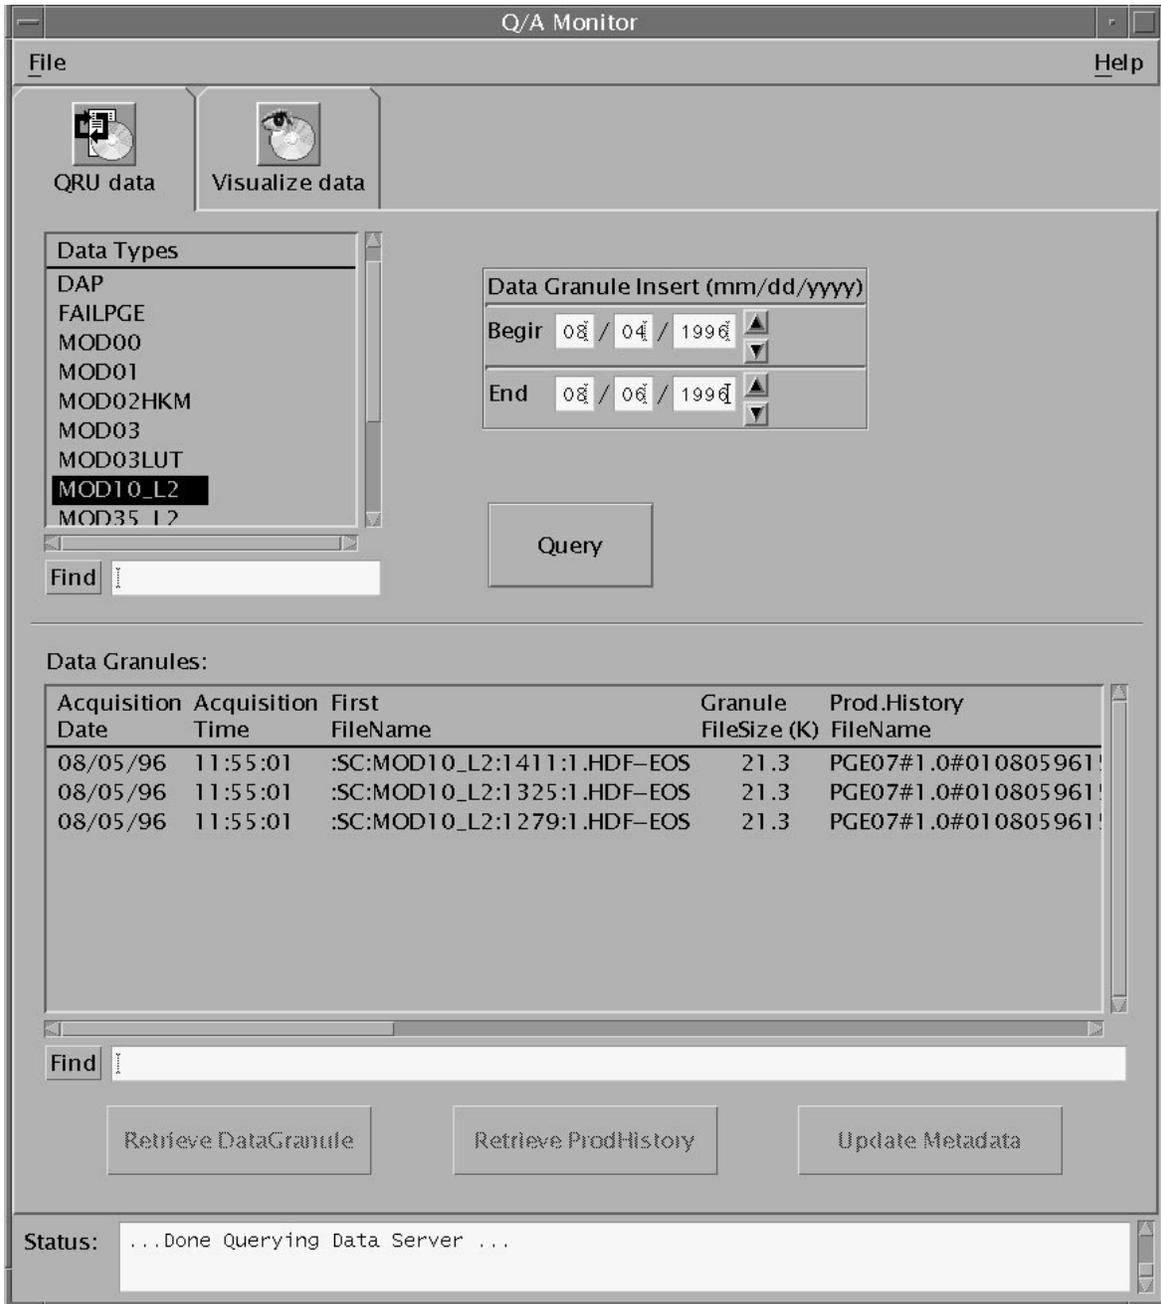

Figure 41. Q/A Monitor GUI - QRU Data Tab
- The **QA Monitor** GUI (Figure 41) is displayed.
The procedure for updating QA metadata starts with the assumption that all applicable servers are currently running and the **Q/A Monitor GUI QRU data** tab (Figure 41) (QRU = Query, Retrieve and Update) is being displayed.